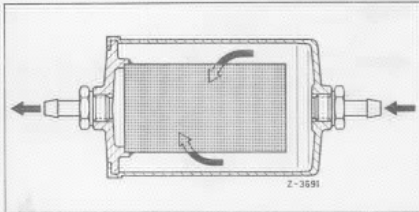

FIG. 4
2. The FUEL FILTER (Fig.4) consists of a paper element and a metal casing. It can not be cleaned and should be replaced every 30,000 miles. More frequent replacements may be necessary under unfavorable conditions.